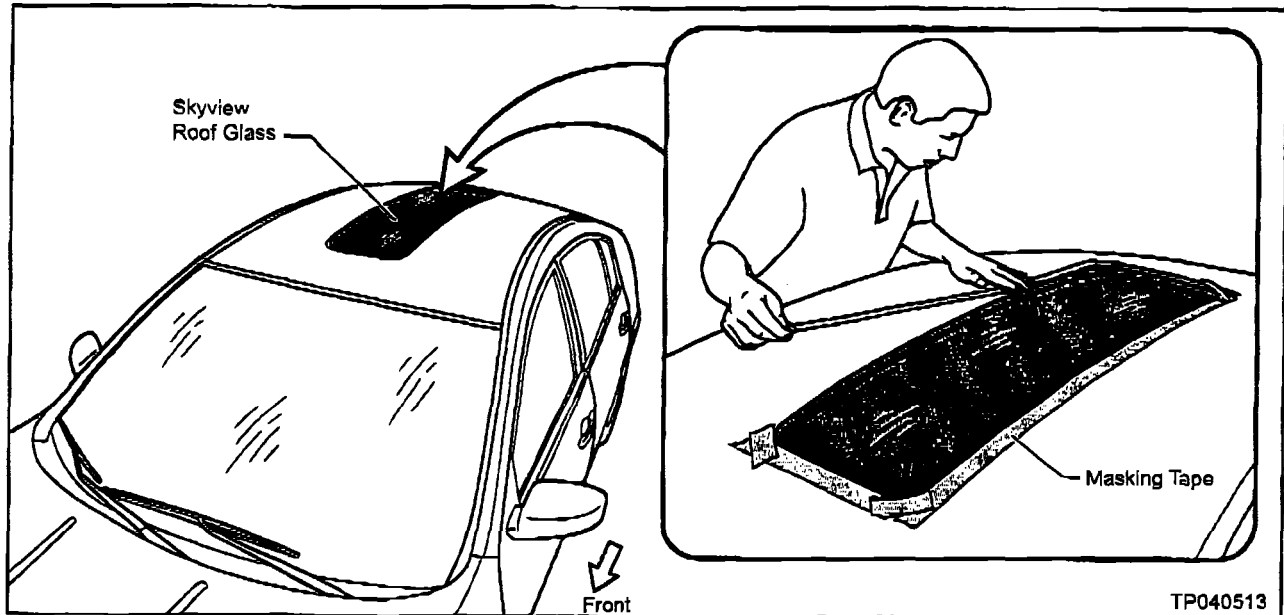

Figure 2
2. Apply masking tape around the edges of the Skyview Roof Glass (see Figure 2).